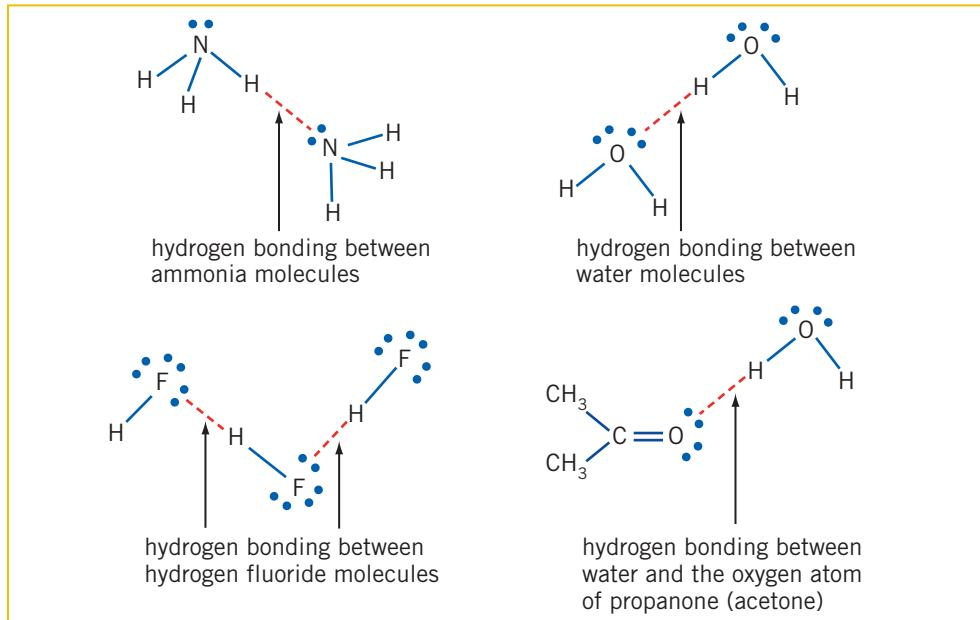

Figure 3.23 Examples of hydrogen bonding between molecules
- the presence of another polar molecule containing at least one N, O or F atom with a non-bonding pair of electrons attached to this atom (Figure 3.23).
Some examples of simple hydrogen bonding interactions are shown in Figure 3.23.